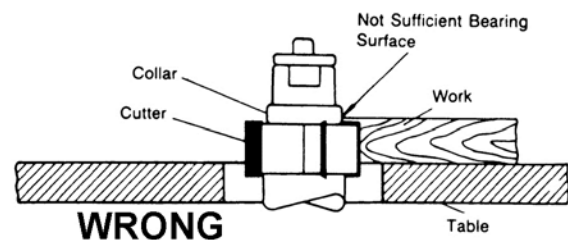

Figure 11
3. A portion of the work's edge must remain untouched by the cutter so that the collar will have sufficient bearing surface. Figure 11 shows an example of **insufficient** bearing surface.